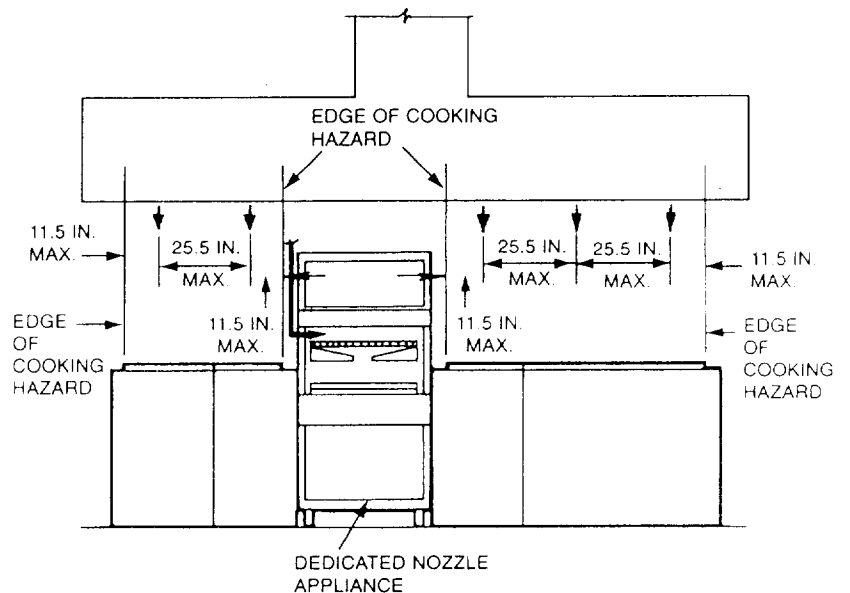

FIGURE 5a
- When appliances requiring dedicated nozzle coverage are located within the overlapping appliance nozzle protected area, the overlapping appliance nozzle spacing must start with the appliance(s) adjacent to the dedicated appliance. See Figure 5a.